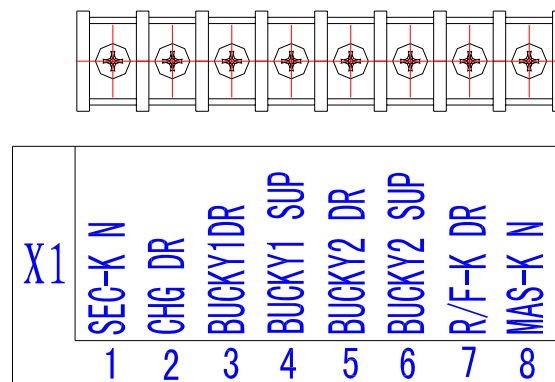

Figure 4-16 Interface terminal X1 (PCB 21001D)
Function of X1 terminal of interface unit circuit board (PCB 21001E) is indicated in figure 4-16.
2. Another end of communication cable shall be plugged into pin bed of console, as indicated in figure 4-16. Plug screw shall be tightened.